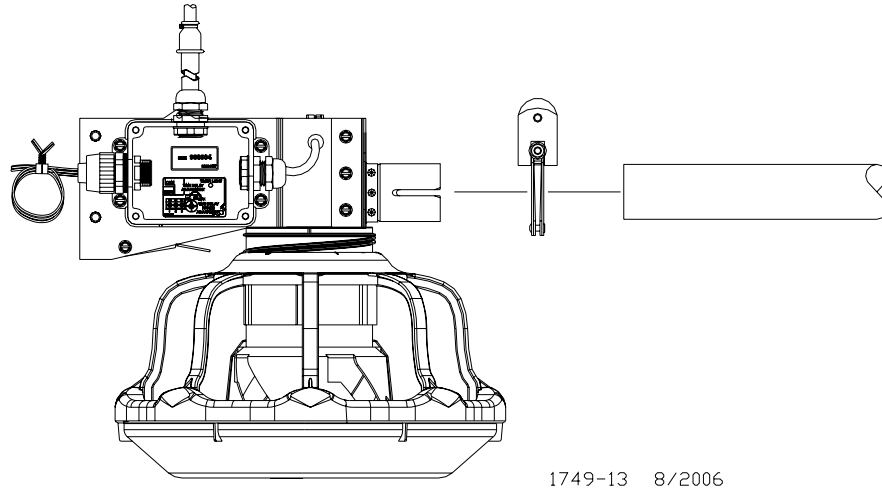

Figure 66. Connecting End Control Unit to the Feed Line Tube
1. Assemble the End Control Unit to the Feeder Line Control Tube using a clamp/anti-roost bracket. See **Figure 66. DO NOT INSTALL THE POWER UNIT AT THIS TIME.**